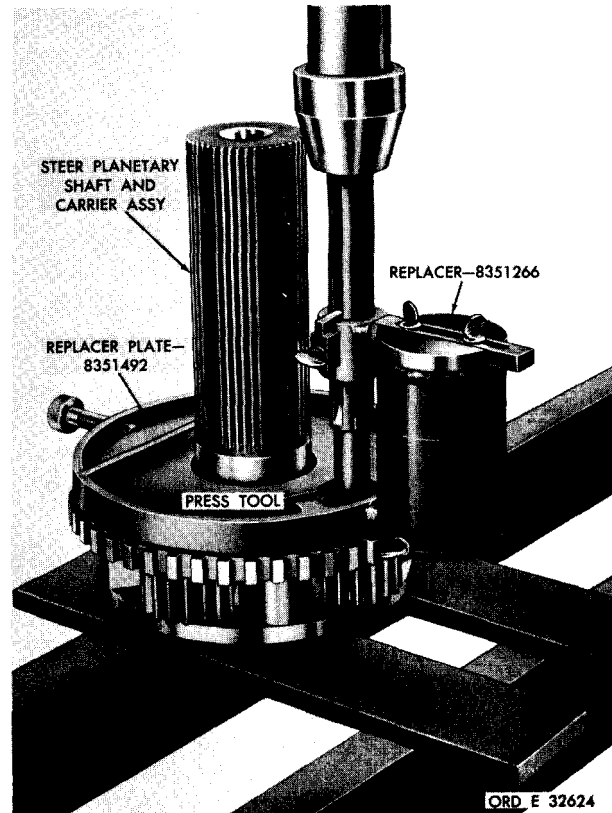

Figure 205. Removing steer planetary carrier and shaft assembly spindle
h. Using replacer plate 8351492, replacer 8351266 and a suitable press tool, press four spindles from the planetary shaft and carrier assembly (fig. 205).